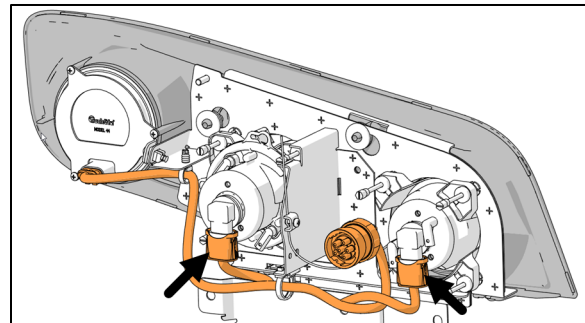

FIGURE 78
3. Unplug the bulb connector (Figure 78).